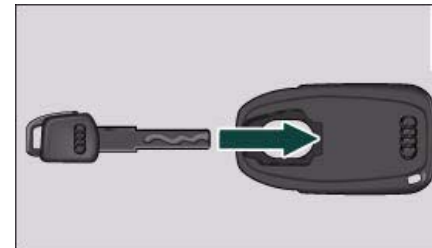

Fig. 34 Inserting the spare key into the adapter
- Insert the spare key ⇒ fig. 34 all the way into the adapter. Please note that the key will only engage in one position.